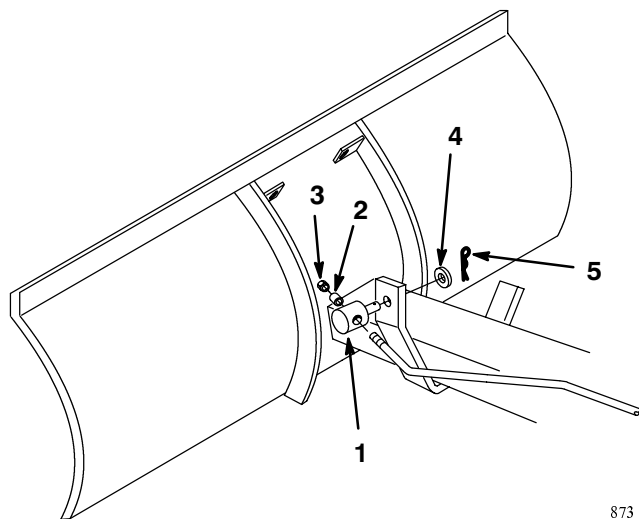

Figure 9
4. Assemble the trunnion and spacer onto the threaded end of the lift rod (Fig. 9). Thread retaining locknut onto the lift rod until approximately 1/4 in. (6 mm) of threads extend out from the locknut.
5. Install the lift rod into the lift lever assembly and trunnion into the frame lift bar (Fig. 9). Secure with washers (1/2 in.) and hairpin cotters.
6. Set the unit on a level surface to adjust the blade height. Set the lift lever in the center position and turn the locknut (Fig. 9) so that the blade is just touching the ground. Adjust the fixed height to personal preference, for your conditions, from there.